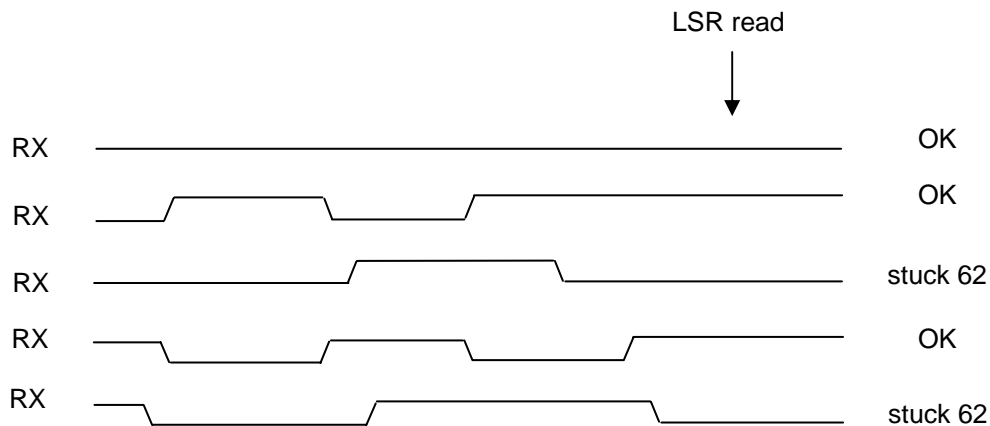

Figure 1.
- Problem:** The TL16C752B UART correctly generates a character timeout interrupt (if IER0 set) when the serial input (RX) has gone quiescent (continuously high) for more than four character times. The problem is that if a new character is received after the timeout, the interrupt will be cleared. The interrupt will be generated again if another timeout occurs. This is an error because reading the RHR (RBR) should be the only clearing mechanism for this interrupt.
**Work Around:** If software is responding to an asserted INT and a read of the IIR reports no active interrupt, then assume it is caused by a new byte being received. Check the LSR; if LSR0 (DR) is set, read the RHR and repeat.
- Problem:** The TL16C752B UART can present a stuck interrupt caused by the LSR being stuck at 62 (overrun indication). The conditions are non-FIFO mode (FCR0=0), LSR error interrupts enabled (IER2=1), and the RX input held low for an extended period. Note that the marking state for RX is high, so this last condition is usually only seen at startup when the RX source has not yet stabilized. Since the device powers up in non-FIFO mode, the problem can occur before FIFO mode has had a chance to be enabled. Figure 1 illustrates when the problem can occur. Each low time on the RX signal is relatively long, and since the divisor registers power up unknown, it is impossible to say with certainty if the low times are sufficient to generate a break character. However, assume that they are. The problem occurs only if more than one break character is detected, which causes an overrun error since the device is in non-FIFO mode. Normally reading the LSR clears the overrun interrupt, but if the RX signal is still low when the LSR is read, the overrun condition will persist erroneously. Once the problem has occurred, changing from non-FIFO to FIFO mode will not clear it out until the RX source is stable.